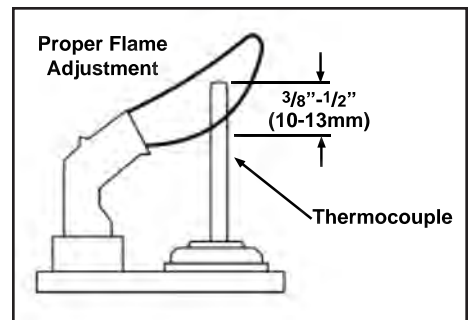

Figure 27: Proper Pilot Flame.
The pilot flow adjustment is set to maximum at the factory and should not need to be adjusted. The pilot flame should envelope $\frac{3}{8}$ " to $\frac{1}{2}$ " (10 to 13mm) of the thermocouple (see Figure 27). However, should the need arise, follow Steps 1- 2 below.
1. The adjustment screw can be reached through the front of the unit using a 10 inch flat head screw driver (see Figure 27 for location on valve).